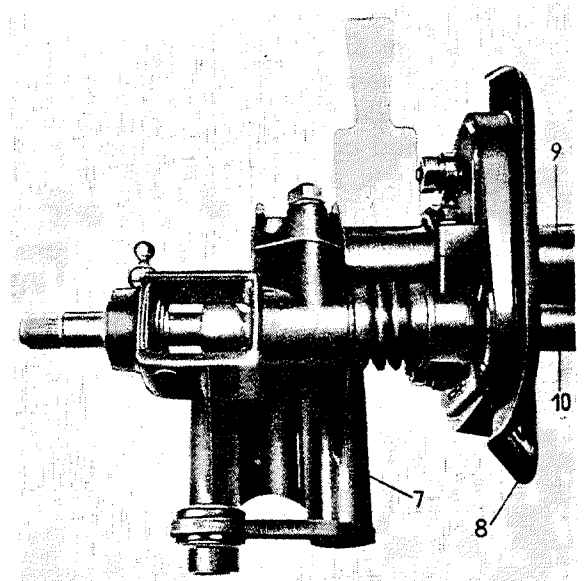

Fig. G 15/16
17. Push rubber ring on pilot journal in shift tube, put on lock plate and install second rubber ring. Screw on cap nut and tighten with wrench 187 589 01 01 (see Fig. G 15/11).